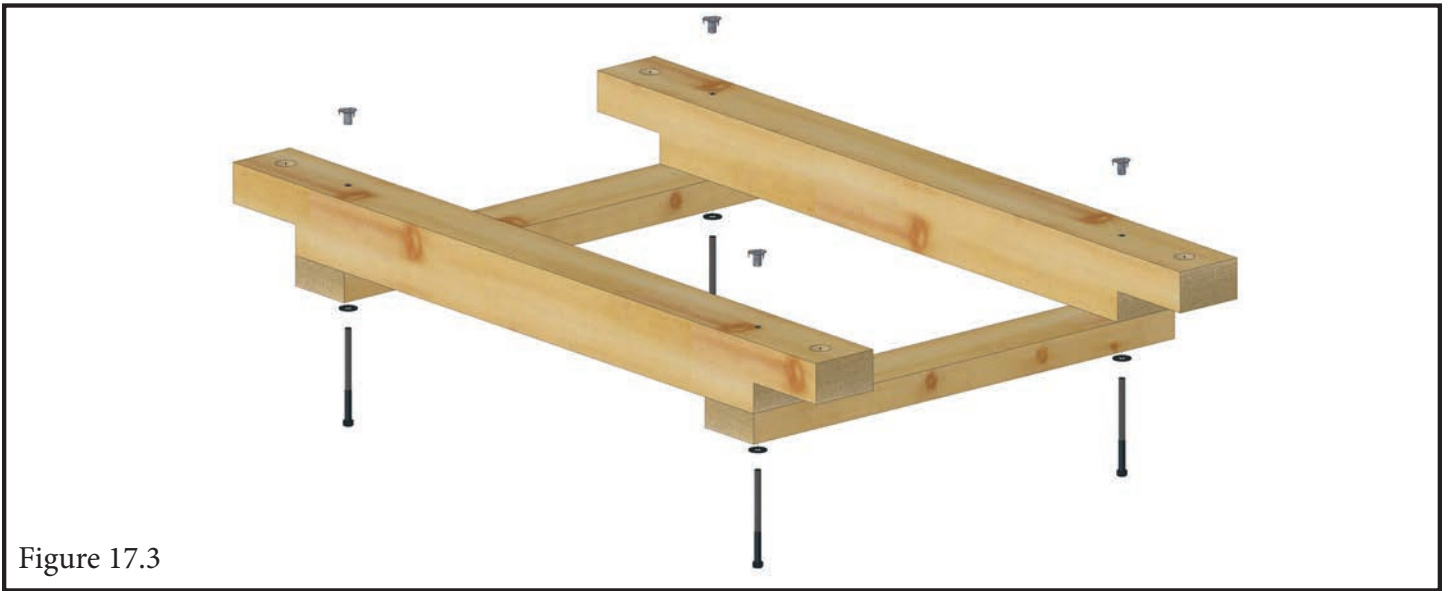

Figure 17.3
17.1 Fasten GW Deck Supports (2) to Bridge Supports 40" with 5/16 x 4-1/2 Hex Bolts and 5/16 washer into T-Nut as shown in Figure 17.3.